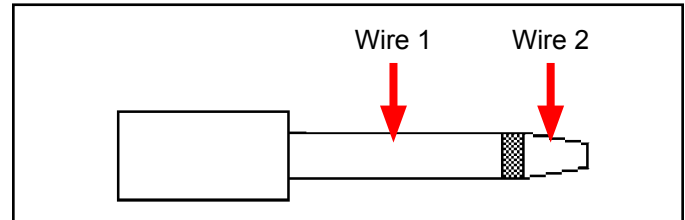

Figure 7. Connecting the monitor's ground clip to the 725VK plugs
6. Clip the other ends of the single conductor wires to the 5.0M plug from the verification kit. One wire should make contact with the two conductors on the verification kit's plug (see Figure 7).